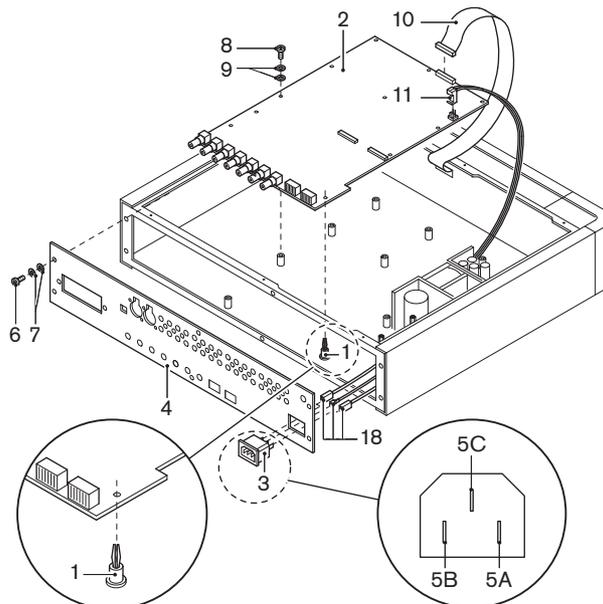
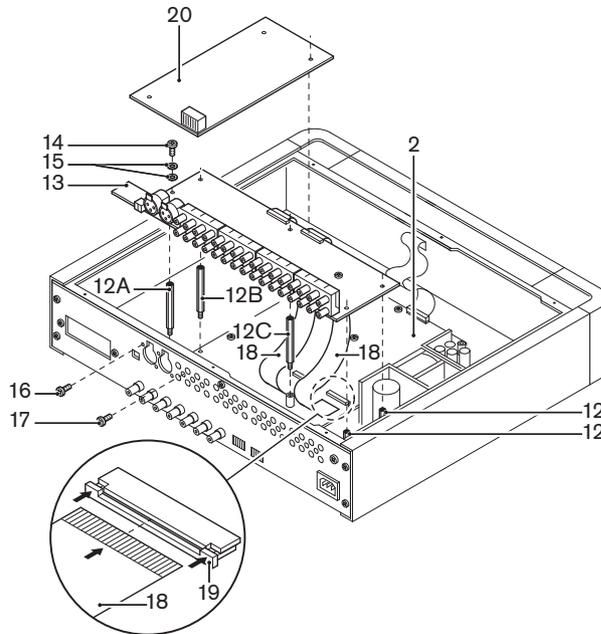

Figure 5.6 Installation of the INT-TXK (steps 1 - 6)
Figure 5.7 Installation of the INT-TXK (steps 7 - 12)
Follow the instructions below to install the INT-TXK. The numbers refer to *Figure 5.6* and *Figure 5.7*.
1. If the LBB4502/xx transmitter is missing a stud to mount the new main PCB (2) of the INT-TXK, paste the glue stud (1) from the upgrade kit to the bottom of the transmitter. See inset in *Figure 5.6* for the recommended pasting position.
2. Click the mains socket (3) in position in the new rear panel (4).
3. Fit the connectors (5) of the mains inlet wires (5A - brown, 5B - blue) and the earth wire (5C) on the pins of the mains socket.
Pay attention to the correct position of the mains inlet wires. See inset in *Figure 5.6*.
Make sure that the flexible cables are entirely and correctly inserted into the connector as incorrect mounting will lead to transmitter failure. See inset in *Figure 5.7*.